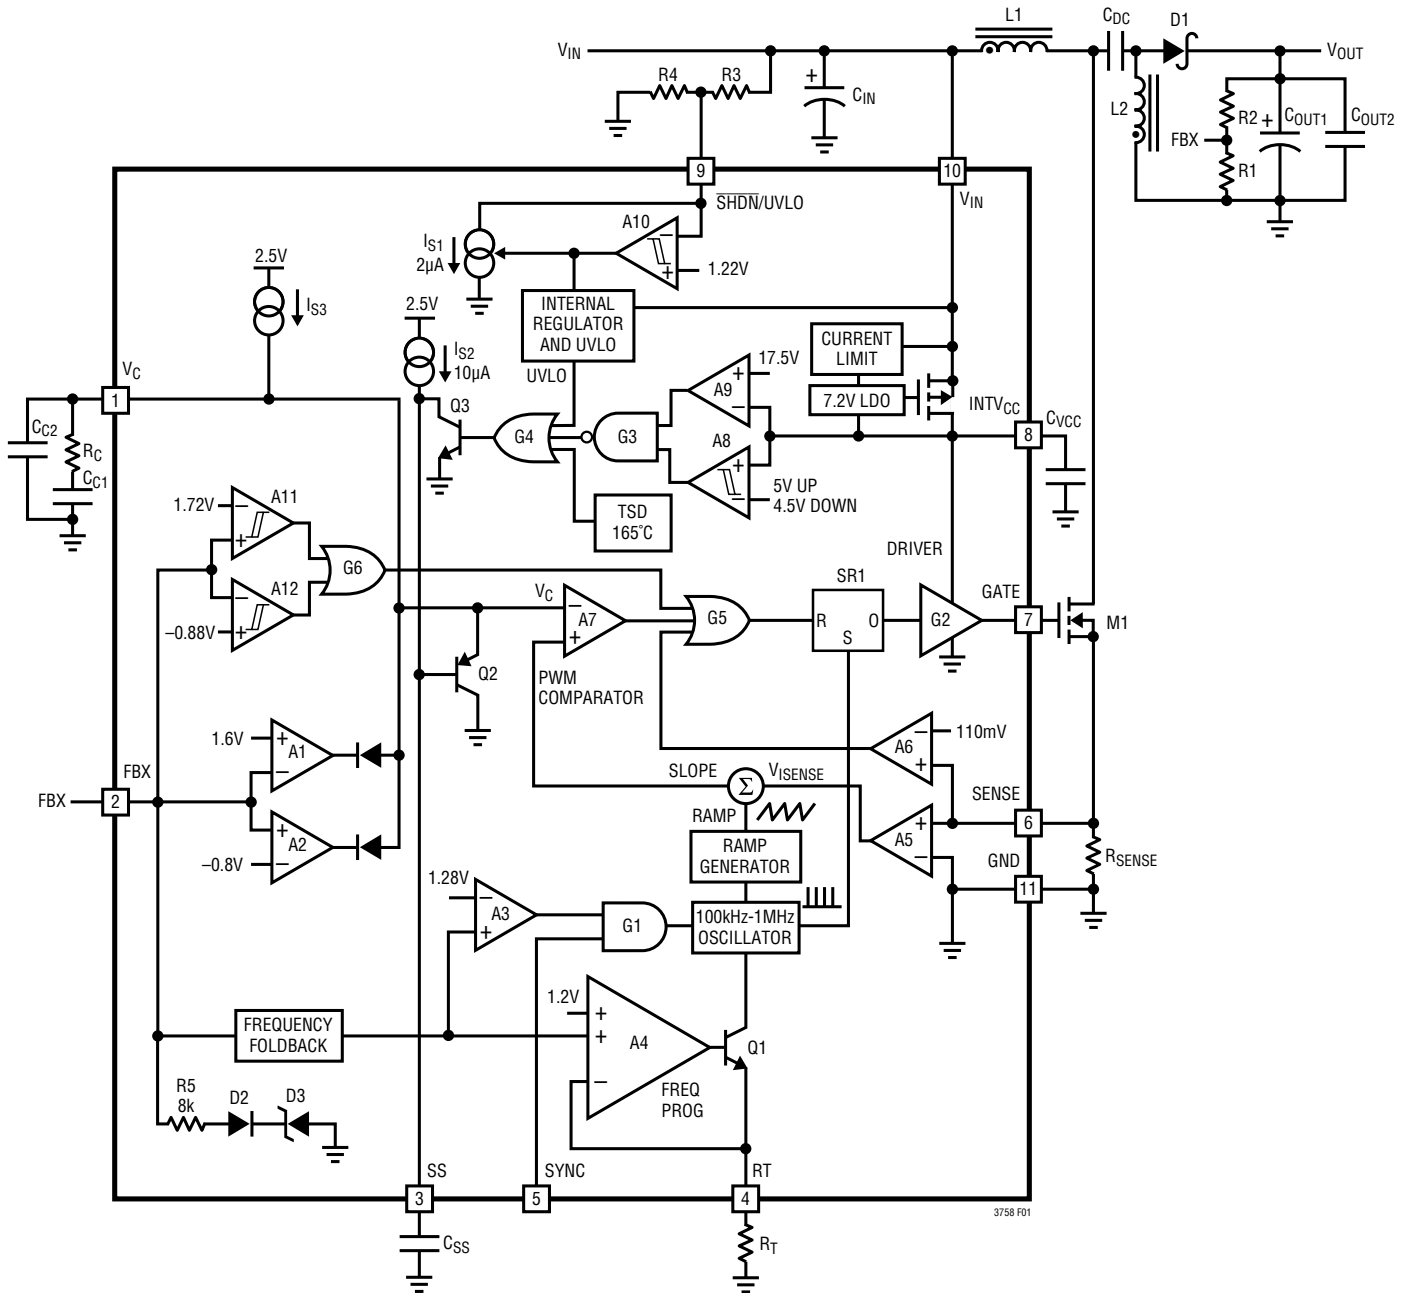

Figure 1. LT3758 Block Diagram Working as a SEPIC Converter
The LT3758 uses a fixed frequency, current mode control scheme to provide excellent line and load regulation. Operation can be best understood by referring to the Block Diagram in Figure 1.
The LT3758 is capable of generating either positive or negative output voltage with a single FBX pin. It can be configured as a boost, flyback or SEPIC converter to generate positive output voltage, or as an inverting converter to generate negative output voltage. When configured as a SEPIC converter, as shown in Figure 1, the FBX pin is pulled up to the internal bias voltage of 1.6V by a voltage divider ($R1$ and $R2$) connected from V_{OUT} to GND. Comparator A2 becomes inactive and comparator A1 performs the inverting amplification from FBX to V_C . When the LT3758 is in an inverting configuration, the FBX pin is pulled down to $-0.8V$ by a voltage divider connected from V_{OUT} to GND. Comparator A1 becomes inactive and comparator A2 performs the noninverting amplification from FBX to V_C .
The purpose of this current is to allow the user to program the rising hysteresis. The Block Diagram of the comparator and the external resistors is shown in Figure 1. The typical falling threshold voltage and rising threshold voltage can be calculated by the following equations:
An internal, low dropout (LDO) voltage regulator produces the 7.2V INTV_{CC} supply which powers the gate driver, as shown in Figure 1. The LT3758 contains an undervoltage lockout comparator A8 and an overvoltage lockout comparator A9 for the INTV_{CC} supply. The INTV_{CC} undervoltage (UV) threshold is 4.5V (typical), with 0.5V hysteresis, to ensure that the MOSFETs have sufficient gate drive voltage before turning on. The logic circuitry within the LT3758 is also powered from the internal INTV_{CC} supply.
The choice of operating frequency may be determined by on-chip power dissipation, otherwise it is a trade-off between efficiency and component size. Low frequency operation improves efficiency by reducing gate drive current and MOSFET and diode switching losses. However, lower frequency operation requires a physically larger inductor. Switching frequency also has implications for loop compensation. The LT3758 uses a constant-frequency architecture that can be programmed over a 100kHz to 1000kHz range with a single external resistor from the RT pin to ground, as shown in Figure 1. The RT pin must have an external resistor to GND for proper operation of the LT3758. A table for selecting the value of R_T for a given operating frequency is shown in Table 1.
The output voltage V_{OUT} is set by a resistor divider, as shown in Figure 1. The positive and negative V_{OUT} are set by the following equations:
In the applications where V_{OUT} is pulled up by an external positive power supply, the FBX pin is also pulled up through the R2 and R1 network. Make sure the FBX does not exceed its absolute maximum rating (6V). The R5, D2, and D3 in Figure 1 provide a resistive clamp in the positive direction. To ensure FBX is lower than 6V, choose sufficiently large R1 and R2 to meet the following condition:
The LT3758 addresses this mechanism with the SS pin. As shown in Figure 1, the SS pin reduces the power MOSFET current by pulling down the V_C pin through Q2. In this way the SS allows the output capacitor to charge gradually toward its final value while limiting the start-up peak currents. The typical start-up waveforms are shown in the Typical Performance Characteristics section. The inductor current I_L slewing rate is limited by the soft-start function.
load transient response, when compared to the LT3758. New internal circuits ensure that the transient from not switching to switching at high current can be made in a few cycles. The optimum values depend on the converter topology, the component values and the operating conditions (including the input voltage, load current, etc.). To compensate the feedback loop of the LT3758/LT3758A, a series resistor-capacitor network is usually connected from the V_C pin to GND. Figure 1 shows the typical V_C compensation network. For most applications, the capacitor should be in the range of 470pF to 22nF, and the resistor should be in the range of 5k to 50k. A small capacitor is often connected in parallel with the RC compensation network to attenuate the V_C voltage ripple induced from the output voltage ripple through the internal error amplifier. The parallel capacitor usually ranges in value from 10pF to 100pF. A practical approach to design the compensation network is to start with one of the circuits in this data sheet that is similar to your application, and tune the compensation network to optimize the performance. Stability should then be checked across all operating conditions, including load current, input voltage and temperature.